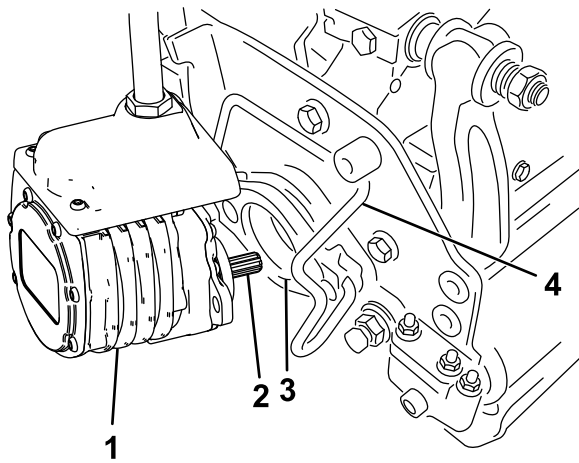

Figure 70
5. Coat the spline shaft of the cutting unit motor with clean grease (Figure 70).
6. Insert the motor into the left side of the cutting unit (as viewed from the operator's position) and pull the motor retaining bar on the cutting unit toward the motor until you hear a click from both sides of the motor (Figure 70).